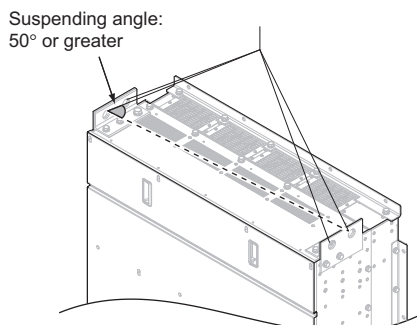

**Figure 12 Drive Suspension Using Wires and Hanging Brackets (2□0154 to 2□0248, 4□0156 to 4□0414)**
**WARNING! Crush Hazard.** Use an adequate length of wire to ensure a 50° or wider suspension angle as illustrated in Figure 12. The maximum allowable load of the eye bolts cannot be guaranteed when the drive is suspended with the wires at angles less than 50°. Failure to comply may result in serious injury or death from falling equipment.